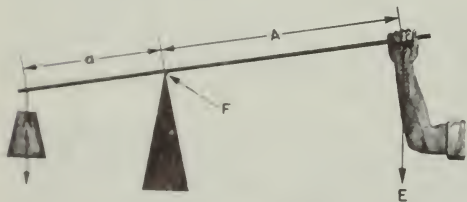
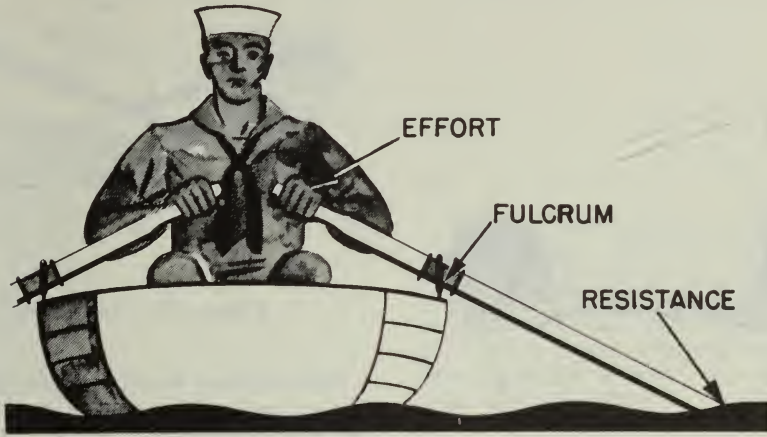

Figure 1-1.—A simple lever. 131.1
Figure 1-3.—Oars are levers.
There are three basic parts which you will find in all levers; namely, the FULCRUM (F), a force or EFFORT (E), and a RESISTANCE (R). Look at the lever in figure 1-1. You see the pivotal point F (fulcrum); the EFFORT (E) which you apply at a distance A from the fulcrum; and a resistance (R) which acts at a distance a from the fulcrum. Distances A and a are the lever arms.
The amount of weight and the distance from the fulcrum can be varied to suit the need. Another good example is the oars in a row-boat. Notice that the sailor in figure 1-3 applies his effort on the handles of the oars. The oarlock acts as the fulcrum, and the water acts as the resistance to be overcome. In this case, as in figure 1-1, the force is applied on one side of the fulcrum and the resistance to be overcome is applied to the opposite side, hence this is a first-class lever. Crowbars, shears, and pliers are common examples of this class of lever.